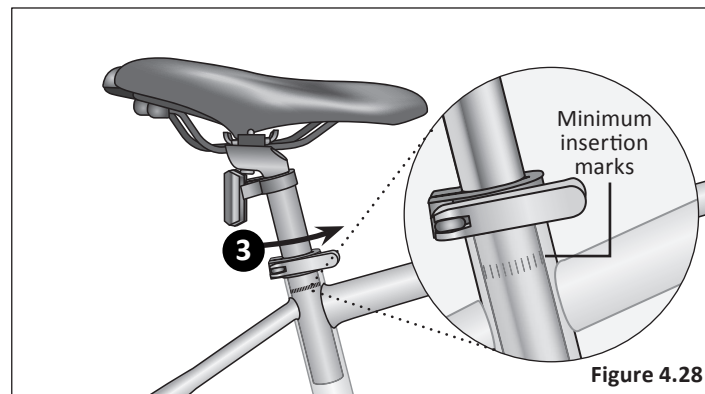

Figure 4.28
- 3 Close the quick-release lever and lock the seat in place. If there is not enough pressure to hold the seat in place open the quick-release lever. With one hand on the quick-release lever and one hand on the adjustment nut, start to hand tighten the adjustment nut until you start to feel some resistance against the clamp post. **Do not** attempt to tighten by turning the quick-release lever. The quick-release lever is for closing, the adjustment nut is for adjusting the pressure. **Figure 4.28**